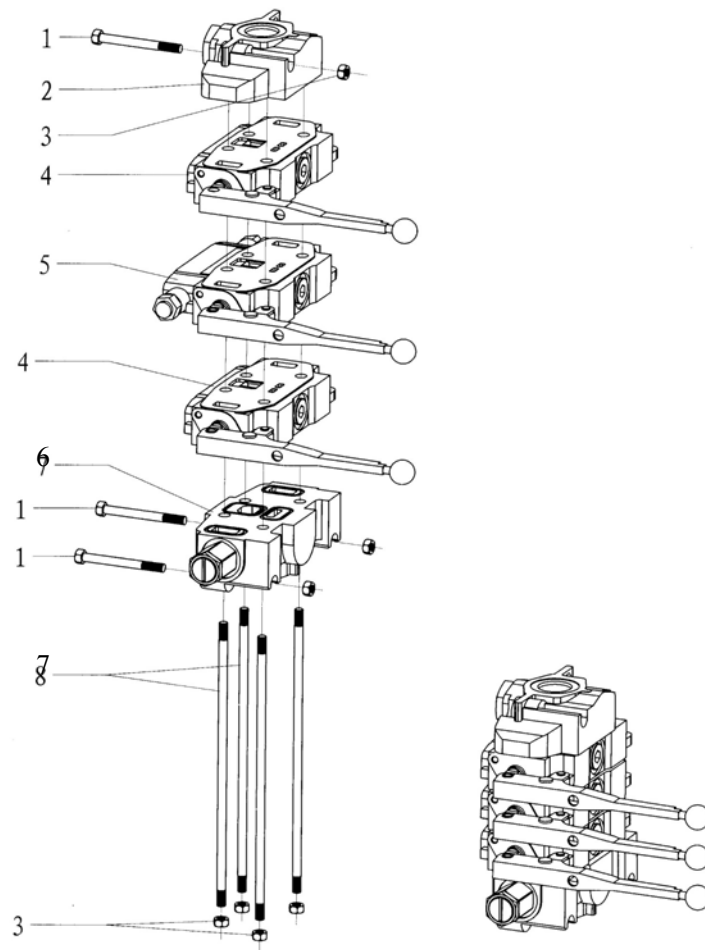

Fig 14
7.11. Hydraulic valve bank (five connection valve) (Fig14, Table13)